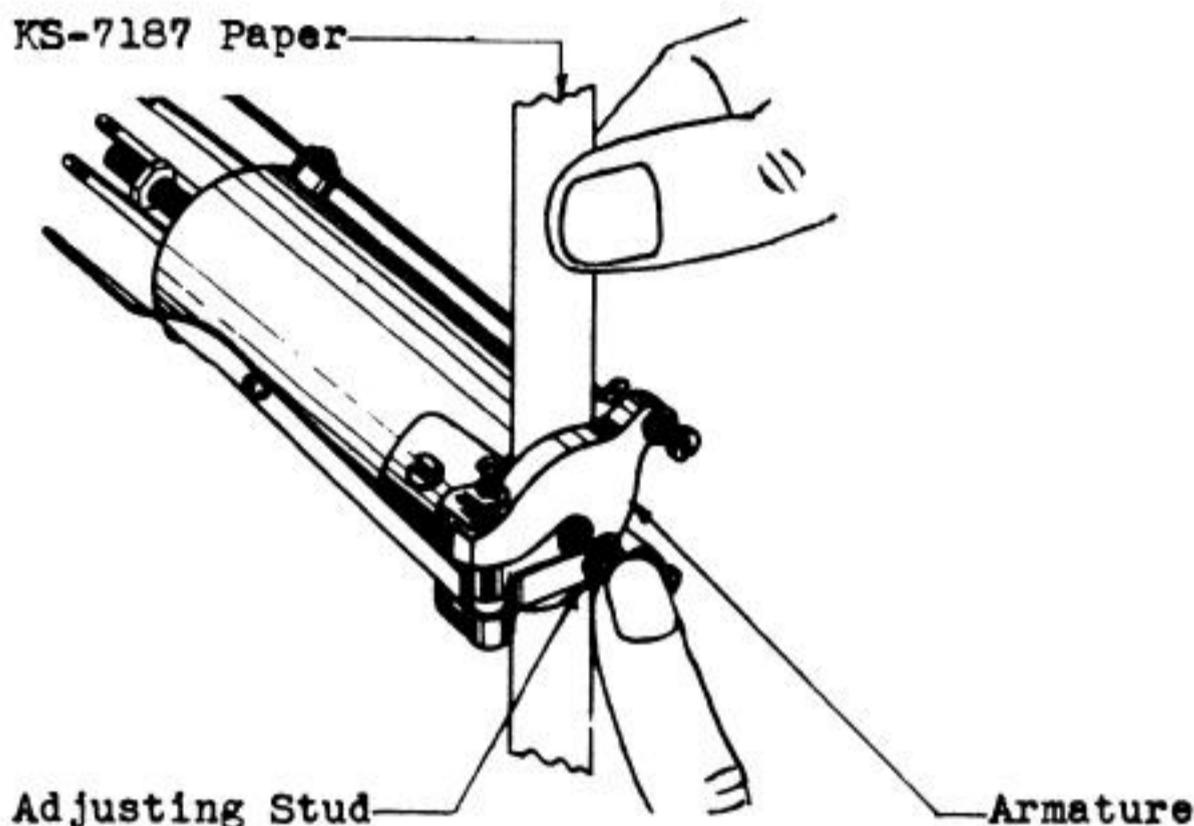

Fig. 29 - Method of Cleaning Armature Shell on 114 and Similar Type Relays
6.06 Cleaning Armature and Shell on 114, 124, 126, 174 and 198 Type Relays. Insert KS-7187 paper between the armature and shell as indicated in Fig. 29. Operate the relay manually and withdraw the paper. Repeat the operation until all surfaces between the armature and shell have been cleaned and the paper shows no evidence of dirt when it is removed. Use a clean piece of paper for each operation.